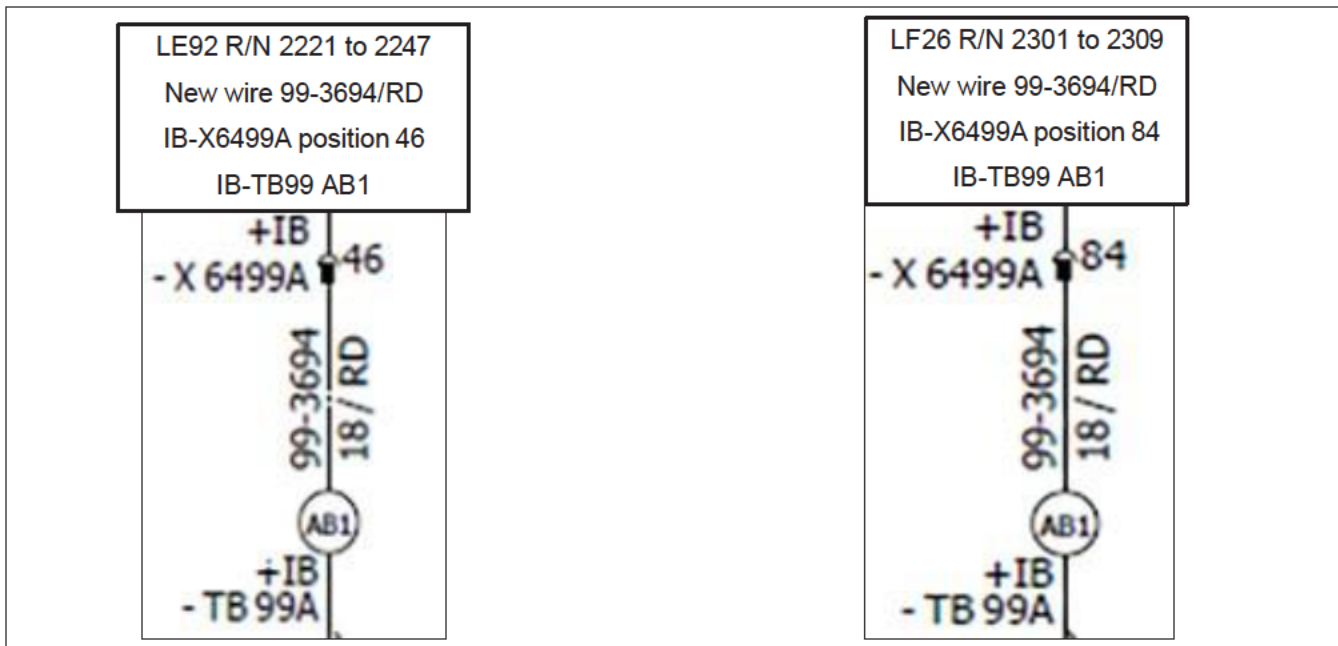

Figure 9 - New Wire 99-3694 Installation
1.23. Connect wire 99-3694/RD (available in wire kit N632001301) in connector IB-TB99A and in connector IB- X6499A . See Figure 9.